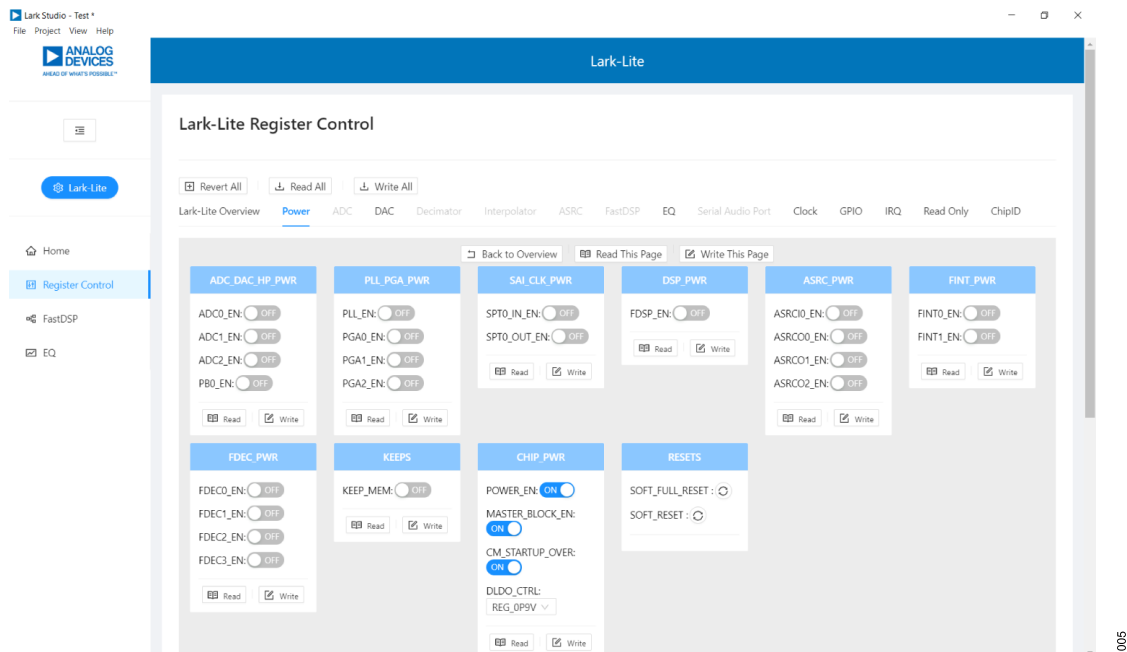

Figure 5. Register Configuration
Configure the **Register Control**, **FastDSP**, and **EQ** settings on the left navigation panel. **Lark-Lite Register Control** has multiple tabs that control different sections of the ADAU1850. Figure 5 shows the **Power** tab, which allows the user to power up or power down various blocks within the ADAU1850. When a block is powered up, that block can be configured.
1. Enable **POWER_EN**, **MASTER_BLOCK_EN**, and **CM_STARTUP_OVER** in the **CHIP_PWR** block in the **Power** tab by clicking the **OFF** button to switch to **ON** (see Figure 5). When an on-board 24.576 MHz oscillator is used, ensure **MCLKIN_EN** is enabled in the **Clock** tab.